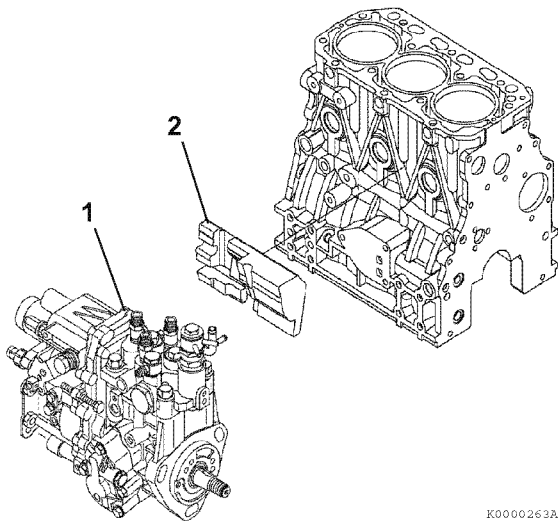

Figure 7-34
12. If equipped, verify the fuel injection pump insulator (2, **Figure 7-34**) is not damaged. Reinstall the insulator and intake manifold if previously removed.